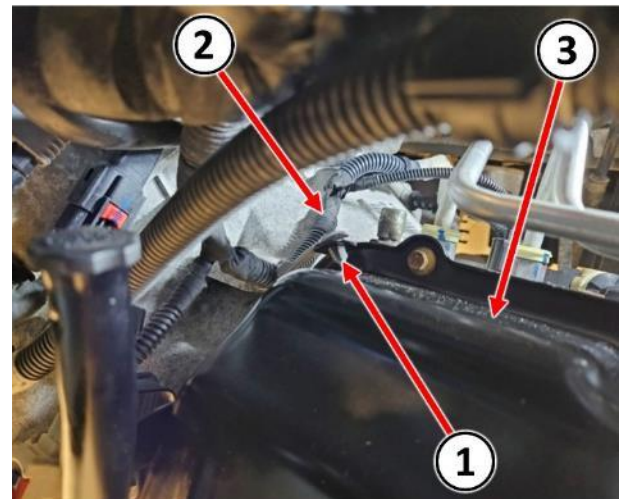

**Figure 10 – Wire Harness Retainer**
17. Release the retainer (1) securing the wire harness (2) to the valve body oil pan (3) (Figure 10).